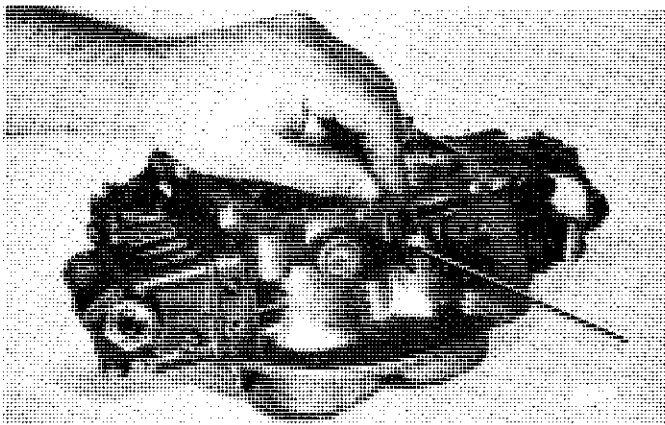

Fig. 3
3. Using an Allen Head Wrench, remove the Allen Head Screw that goes through the side of the carburetor. (See Fig. 3)